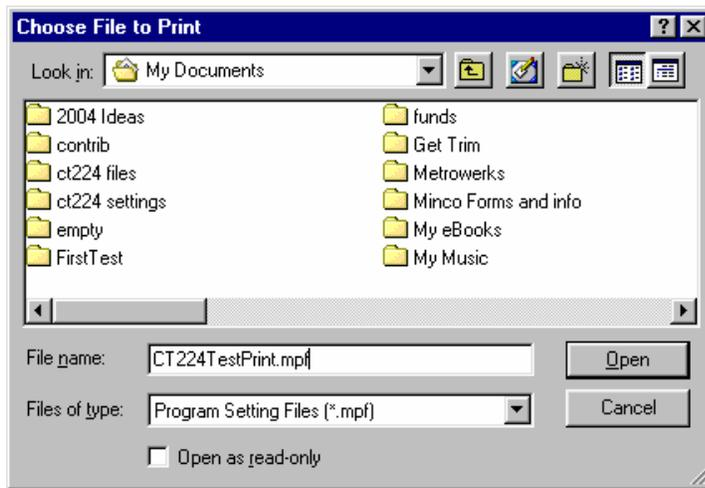

Figure 8
5. To print a file, click “Print” and then select “Print a File”. Click OK and the window in Figure 8 will appear.